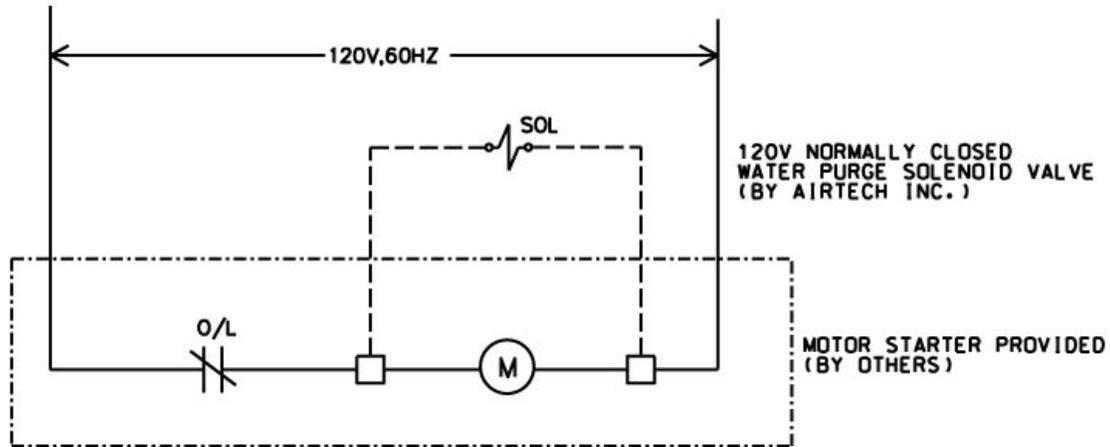

Figure 1
6.6.7 Connect the water supply solenoid valve to the motor control circuit so that the solenoid valve opens when the motor starter is energized and closed when the motor starter is de-energized (see Figure 1).